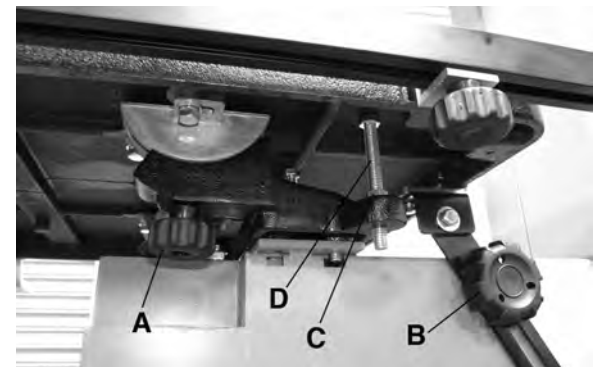
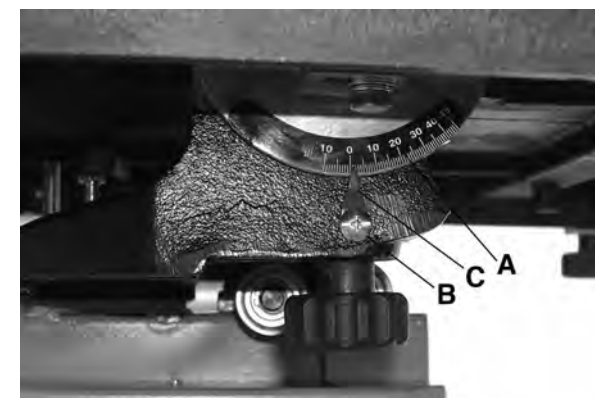

FIGURE 13
FIGURE 15
1. Loosen lock knobs (A) Fig. 13 and lock knob (B) and position the table to the desired angle using the tilt scale (A) Fig.15. Retighten lock knobs.
3. If it is not 90 degrees, loosen lock knobs (A) Fig. 13 and lock knob (B) and level the table at 90° to the blade. Retighten lock knobs.
4. If the tilt scale pointer (C) Fig.15 no longer lines up with the zero mark, loosen pan head screw (B), reposition pointer (C) to the zero mark and retighten pan head screw.
5. The table stop bolt (D) Fig.13 under the table should be adjusted. Loosen hex. nut (C) and unscrew table stop bolt (D) until it rests against the underside of the table. Tighten hex. nut to secure its position. This stop bolt allows user to accurately return the table to the 90° position after an operation which involved tilting the table.